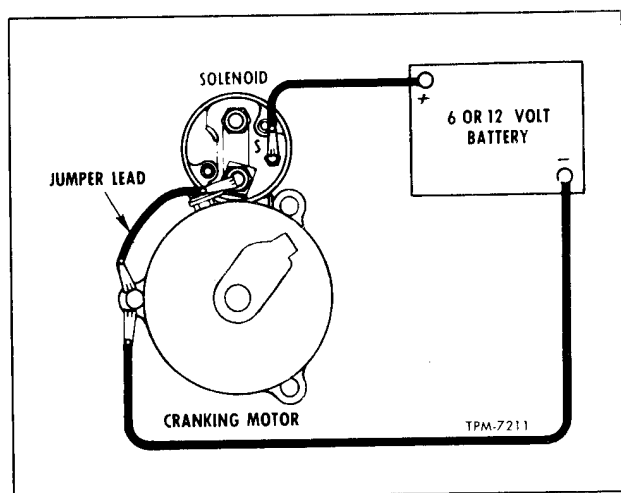

Figure 7—Test Hook-Up For Checking Pinion Clearance
1. To check the pinion clearance, connect a 6-volt battery from solenoid switch terminal to starter frame (fig. 7). If solenoid does not operate, use a 12-volt battery. To prevent starter from motoring, connect a heavy jumper from solenoid
ate, use a 12-volt battery. To prevent starter from motoring, connect a heavy jumper from solenoid "MOTOR" terminal to starter frame (fig. 7).